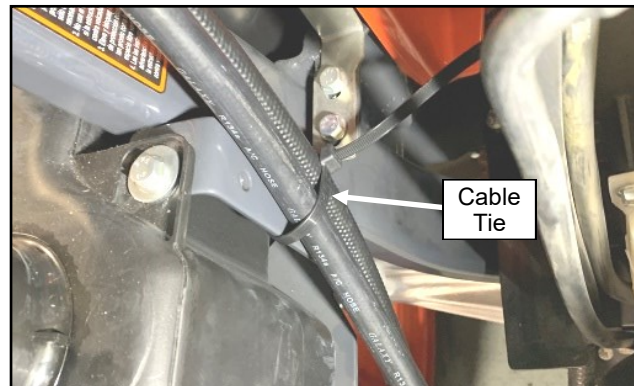

Fig. 7.2 (Cable Tie Hoses)
7.2 See fig. 7.2. Secure both A/C hoses to the vehicle frame using a cable tie as shown. Ensure that the hoses will not contact any sharp edges.